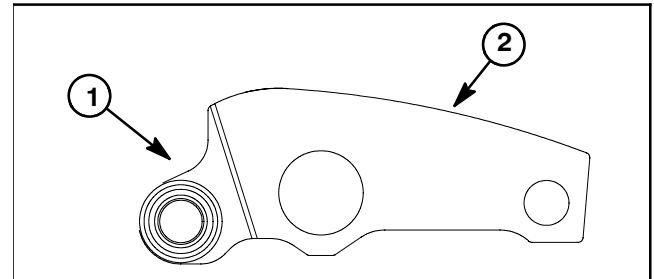

Figure 10
2. Inspect the compression spring (item 3) and replace if damaged or fatigued.
3. Clean and inspect shoulder screws (item 5). If the shoulder area of the screws is worn or if the threads are damaged, replace the screws.
4. Check the contact surface of the clutch weights (Fig. 10). If surface is worn or damaged, replace all three (3) clutch weights as a set.